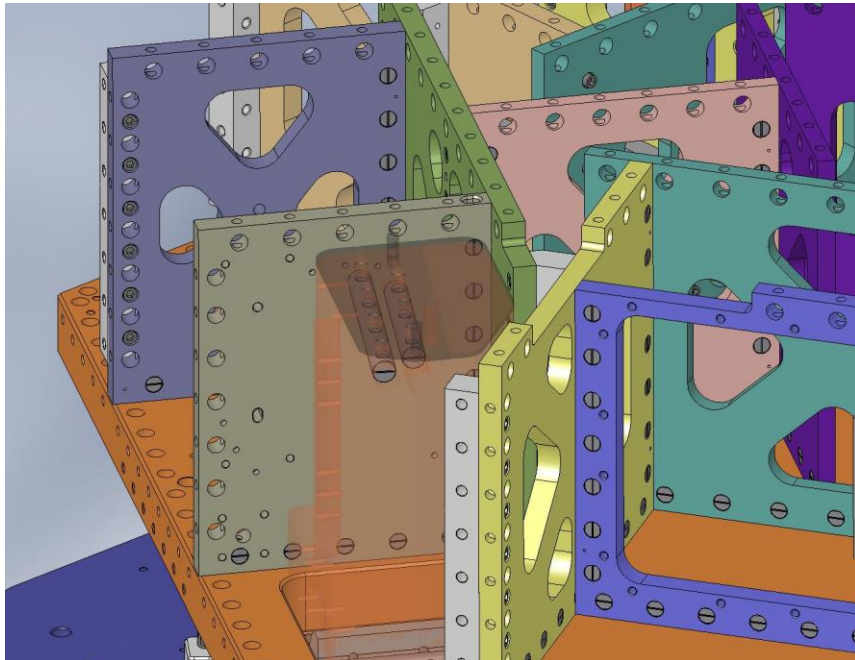

Figure 4.84. Slide (2) large Gang Barrel Nuts into each Support Post. These will capture the mounting screws for the Springs.
- Insert a 3-hole and a 4-hole 1/2"-13 **Gang Barrel Nut** (D071251-03 and -04, respectively) into each of the **Support Posts**, as shown in Figure 4.84.